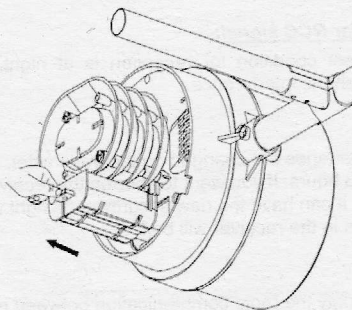

Figure 2
2. Pull out the battery compartment (figure 2)